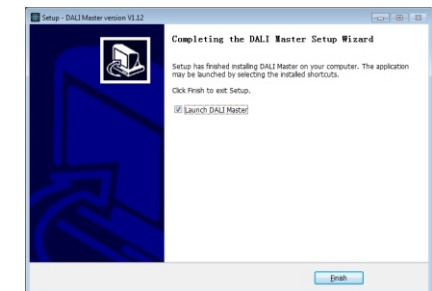

Figure 6 Complete Installation
Step 6: Complete installation as shown in **Figure 6**.